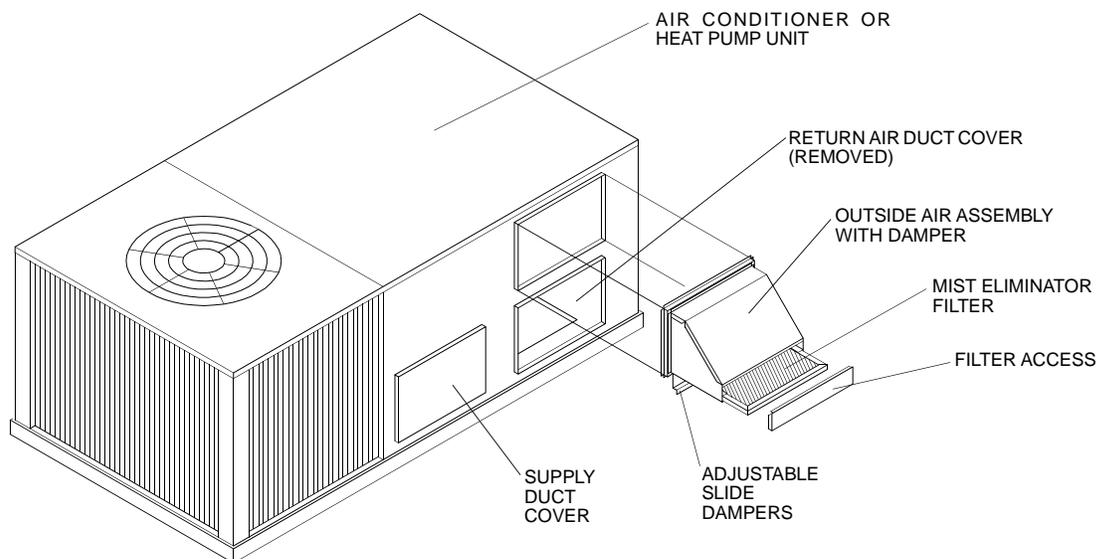

FIG. 1 - MANUAL OUTDOOR AIR DAMPER
3. Install outside air assembly as shown in Figure 1 over duct opening with the screws removed in Step 2.